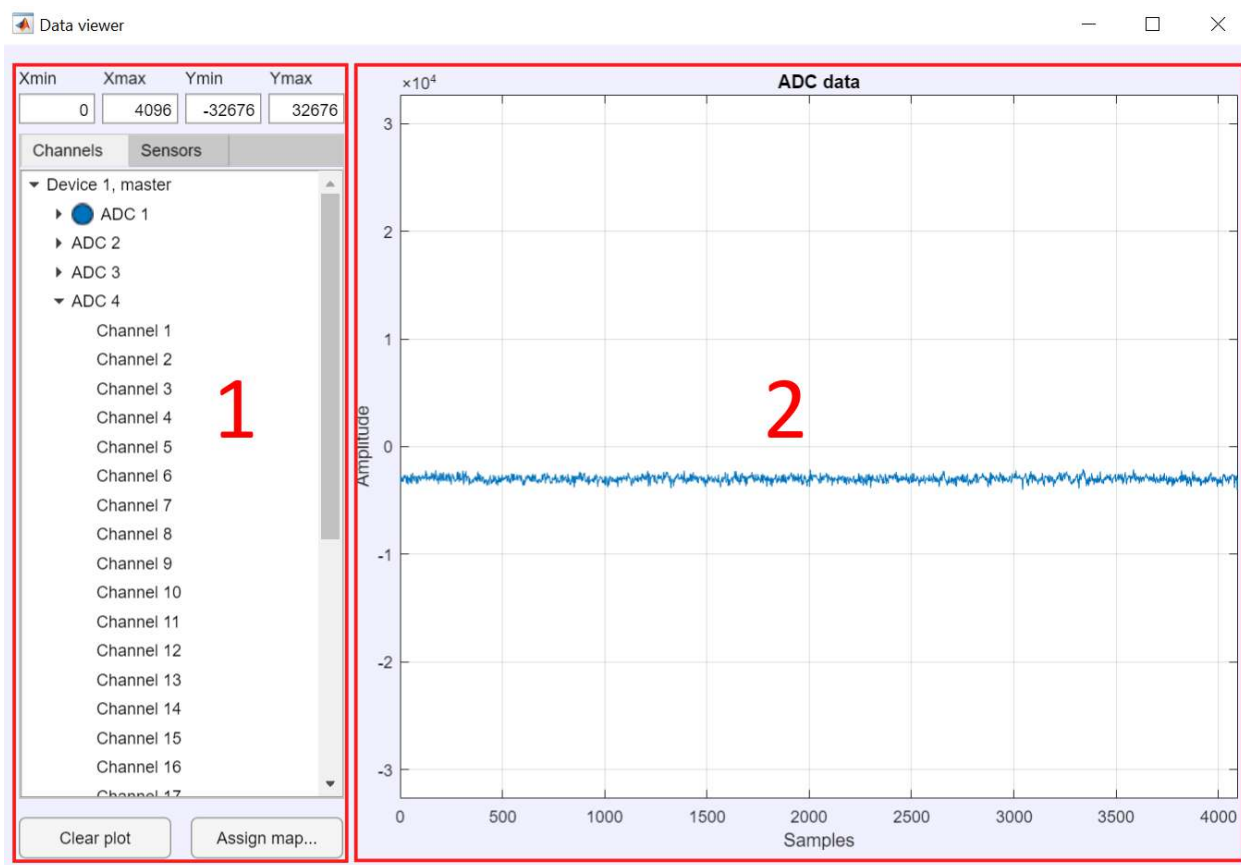

Figure 19: Data Window
The Data Window (Figure 19) has two sections: the channel table (1) and the oscilloscope (2).